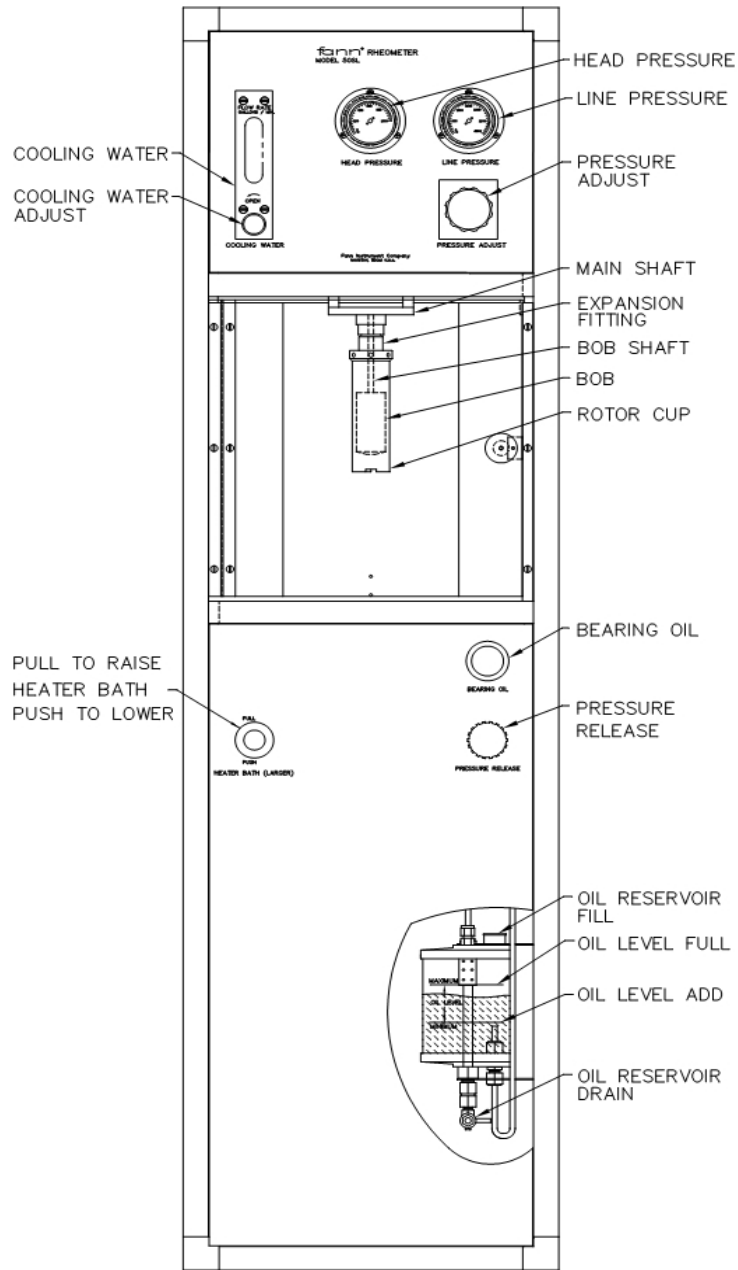

Fig. 1
This Section describes the controls and functions for pressurization by using Nitrogen. Temperature controls are described for heating the Heater Bath and water flow controls for head cooling and heater bath cool-down. For location of these components refer to Fig. 1.
1. Verify the **PRESSURE RELEASE** Valve is Closed. (Refer to Fig. 1).
2. Slowly and steadily pull the **BEARING OIL** pump knob all the way **OUT** and hold until the pump is full of oil, then push the knob all the way **IN**. This will inject a proper quantity of oil into the bearings. (Refer to Fig. 1).
1. Verify **PRESSURE ADJUST** Regulator is closed (Turned all the way counterclockwise). (Refer to Fig. 1).
- a. Turn the **PRESSURE ADJUST** Regulator clockwise to obtain desired pressure. This pressure is read from the **HEAD PRESSURE** gauge at the center of the front panel. (Refer to Fig. 1).
PULL and hold the **HEATER BATH** knob until the Heater Bath is in the Full UP position and complies with test program being used. (Refer to Fig. 1).
PUSH and hold the **HEATER BATH** knob to lower the Heater Bath as far as desired to comply with test program being used. (Refer to Fig. 1).
2. Apply pressure as described in Section 4D-2 above to comply with test program being used. Refer to Fig. 1 **HEAD PRESSURE** for pressure desired.
4. Turn the **PRESSURE ADJUST** Regulator off by turning the Regulator Knob slowly all the way counterclockwise. (Refer to Fig 1). Nitrogen will be heard venting from the regulator.
5. Carefully open the **PRESSURE RELEASE** Valve. (Refer to Fig. 1). Oil, foam, and Nitrogen will be discharged into the oil reservoir. When the **HEAD PRESSURE** gauge reads zero, the venting will be complete. This allows the following steps to be performed safely.